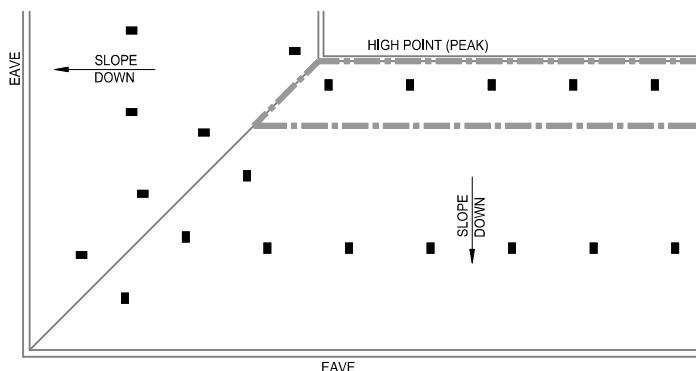

FIGURE 21C: 2 ROW PROTECTION CALCULATION #2
- Calculation #2: Calculate the most hydraulically demanding 5 contiguous sprinklers along the high point. See FIGURE 21C.